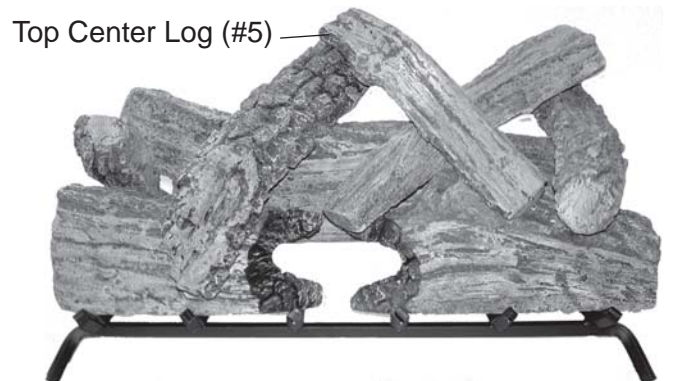

Figure 119 - Installing Top Center Log (#5)
9. Lay Top Center Log #5 across log #7 with front end resting on Log #1B. See Figure 119.